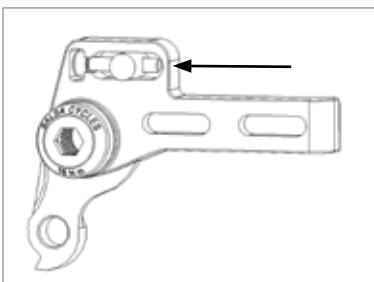

Figure 1
3. Set one M4 bolt and barrel nut assembly into the upper inside recess of the driveside dropout plate; set the other assembly into the upper inside recess on the non-driveside dropout plate. The barrel nuts go toward the front of the bike (Fig. 1).